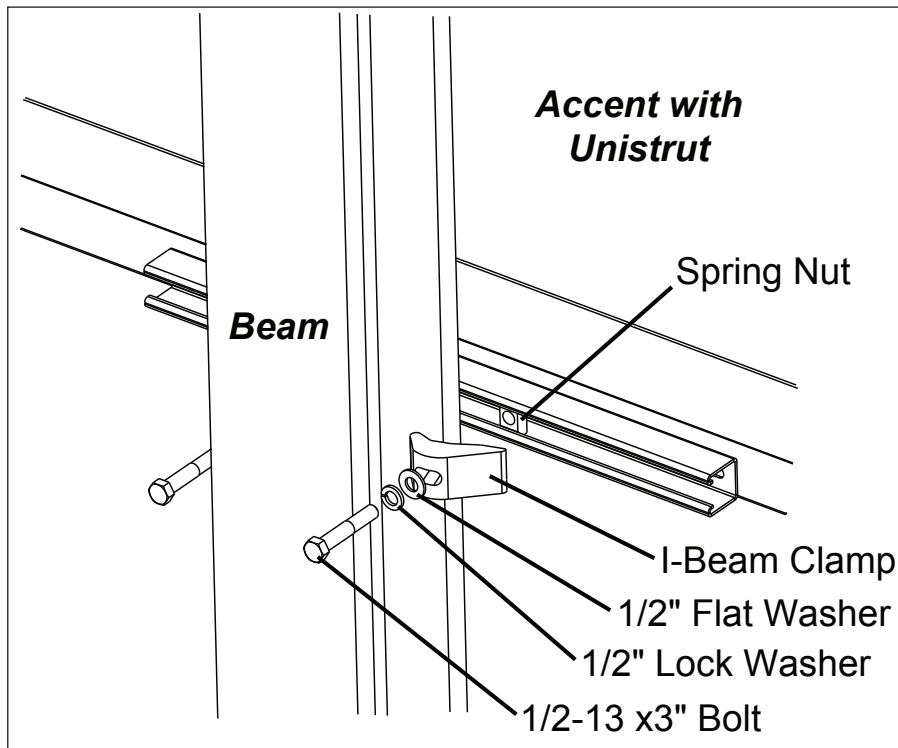

Figure 9: Dome Accent Mounting with I-beam Clamps, Rear Isometric View
7. Make final adjustments in the positioning of the accent to ensure it is flush and level, and firmly tighten all of the bolts (**Figure 9**).